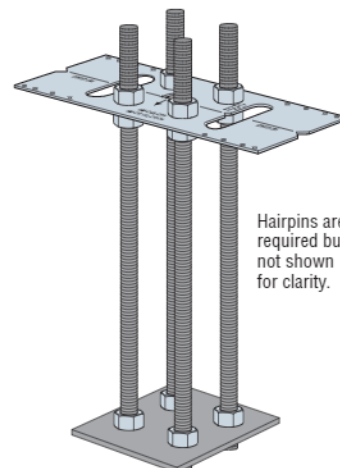

Figure D8.2 —
2. MFAB — The MFAB assembly requires field-installed ties or hairpins, but also provides higher shear capacity depending on the amount of reinforcing provided (see Figure D8.2).